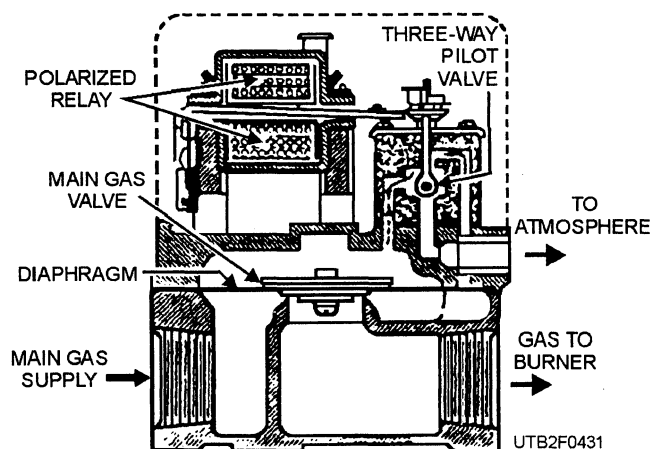

Figure 4-31.—A diaphragm gas valve.
**DIAPHRAGM VALVE.**—The diaphragm gas valve shown in figure 4-31 can be used